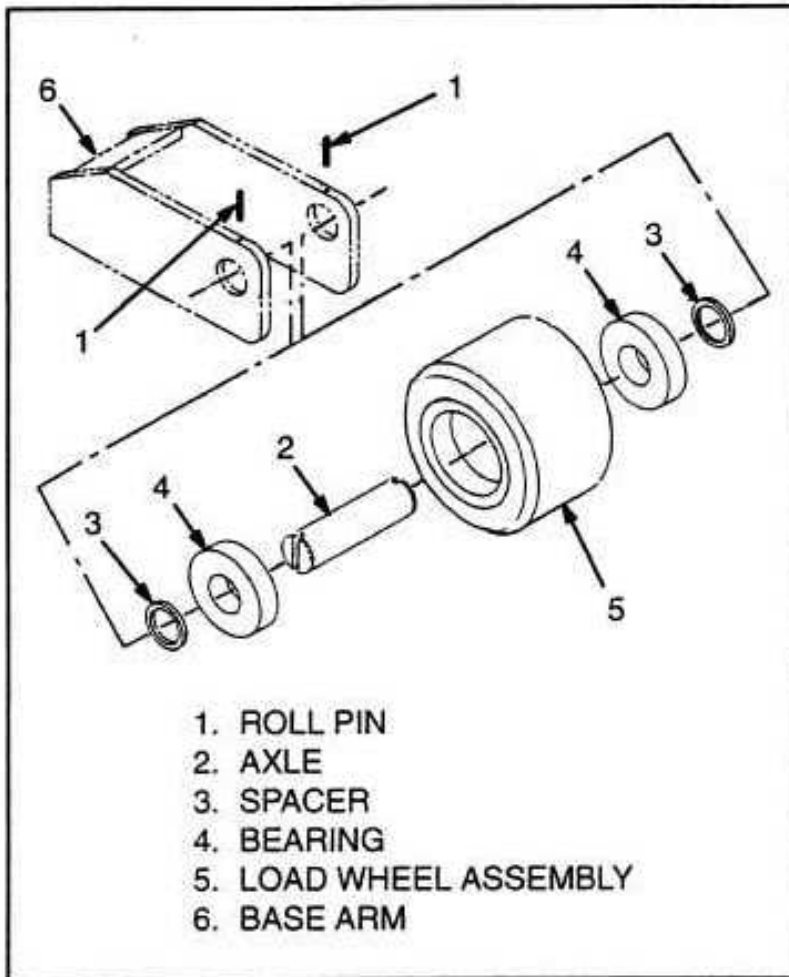

Figure 2-9 – Single Load Wheels
2. Align the spacers and position the new load wheel. Install the axle through the base arm. See Figure 2-9.